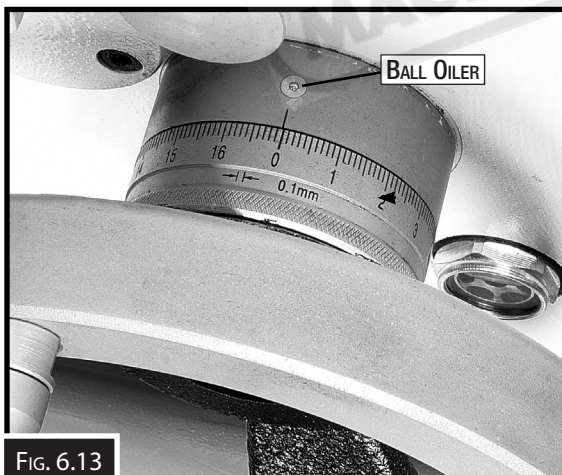

FIG. 6.13
- ☐ Carriage handwheel (Fig.6.13)